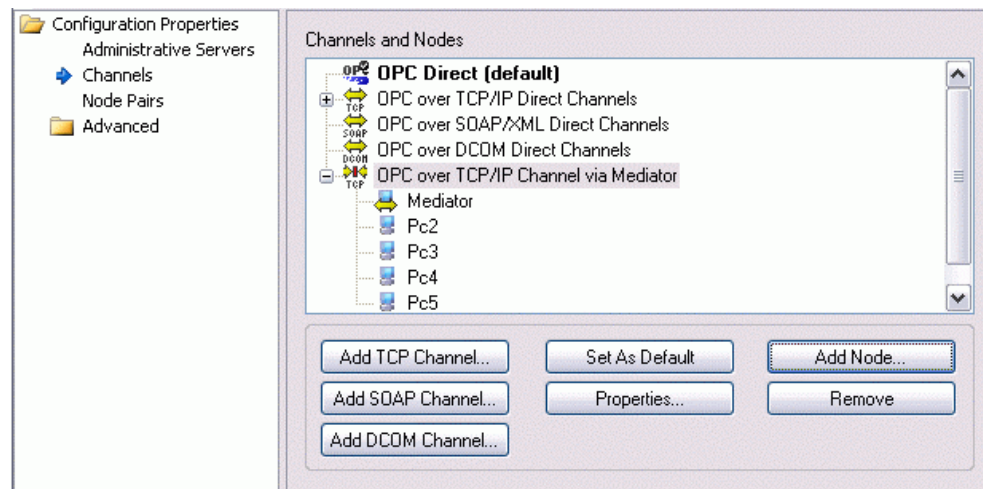

Figure 5.6. Configuring a Mediator Node
1. Click the **Add TCP Channel** button. This opens the **Select a Node** dialog box. Specify a name for the mediator node (for example, "Mediator") in the **Node Name or IP Address** field, and then click **OK**. The new channel will appear in the GenBroker Configurator screen as **OPC over TCP/IP Channel via Mediator**, and the new mediator node will appear below the new channel, as shown in Figure 5.6.
2. Now add PC2, PC3, PC4, and PC5 to the new TCP/IP channel. Right-click **OPC over TCP/IP Channel via Mediator** and select **Add Node** from the pop-up menu. This opens the **Select a Node** dialog box. Enter **PC2** in the **Node Name or IP Address** field, and then click **OK**. The node name will appear below the channel, as shown in Figure 5.6. Repeat this procedure for PC3, PC4, and PC5.